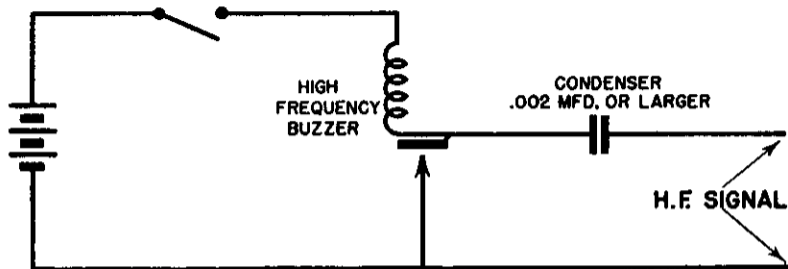

Fig. 12
**Signal generator for tracing a signal.** A high-frequency buzzer, operated by a battery, makes an effective signal generator for tracing through a receiver or amplifier. (See Figures 12 and 13.)